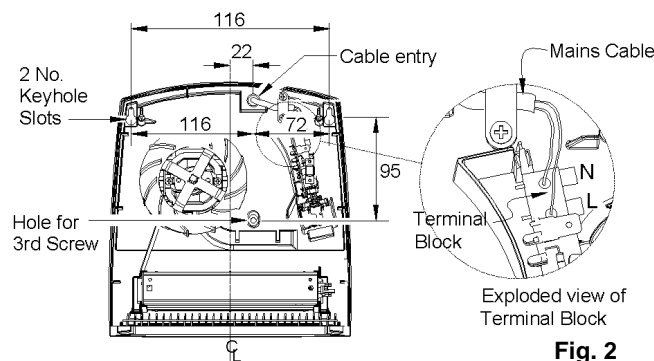

Fig. 2
The appliance is secured to the wall with three screws, two through keyhole slots and one through a centrally positioned lower hole to hold the appliance firmly in position (see Fig 2).
7. Make electrical connections to the terminal block ensuring that the live connection is made to the terminal marked 'L' and the neutral connection to the terminal marked 'N' (see Fig 2 exploded view).